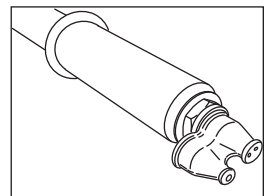

Figure 6.
1. Determine which spray pattern is desired. The nozzle has a single-hole option for a stream pattern or a two-hole option for a fan pattern. **See Figure 6.**